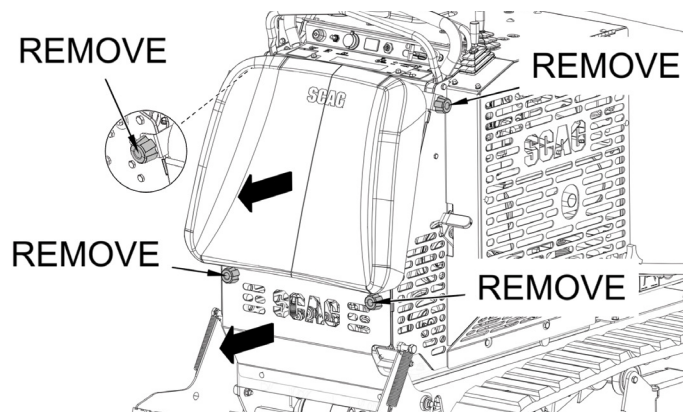

Figure 6-6. Cushion Bracket & Foot Guard
1. Remove the two knobs securing the cushion bracket to the machine. See Figure 6-6.
1. Remove the two knobs securing the foot guard to the cushion bracket. See Figure 6-6.